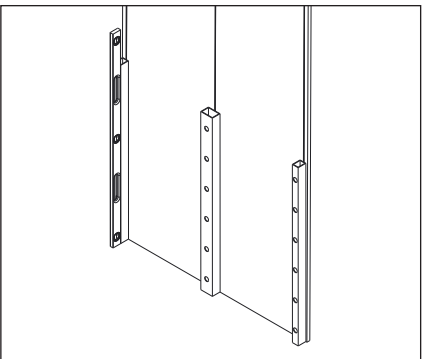
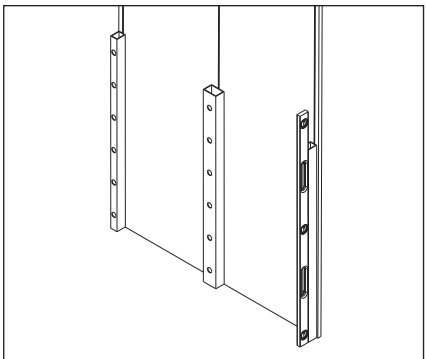

Figure 8: Check Plumbness
Figure 9: Check Plumbness
6. Repeat **Steps 1-5** to attach the remaining tubes to the right and left of the center tube. Level each tube separately. Refer to **Figure 8** and **Figure 9**. Place shims between the wall and the tube until the tube is plumb. Each individual tube should be level within $\frac{1}{4}$ " from the lowest to highest point along the entire vertical length of the display tube(s).